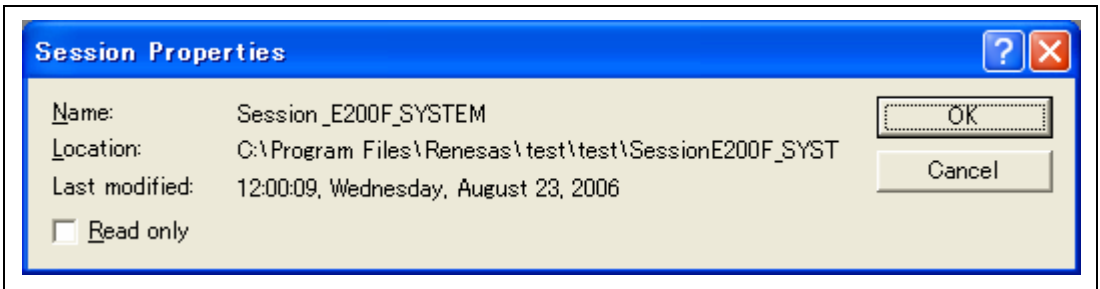

Figure 4.33 [Session Properties] Dialog Box
3. Click the [Properties] button to display the [Session Properties] dialog box (figure 4.33).